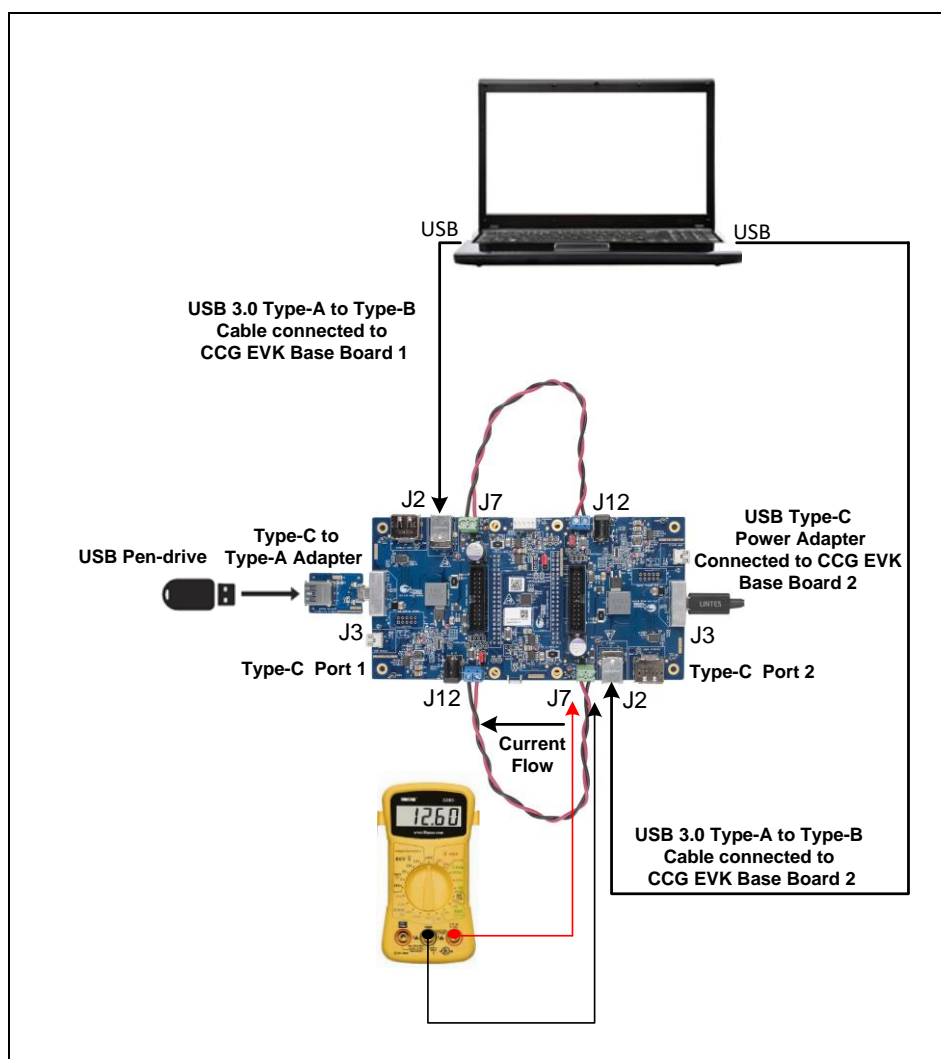

Figure 12 DRP and Dead Battery Charging Demo Setup (Scenario 2)
- The Type-C power adapter and a USB pen drive can be interchanged between Type-C port 1 and Type-C port 2, as shown in Figure 12.